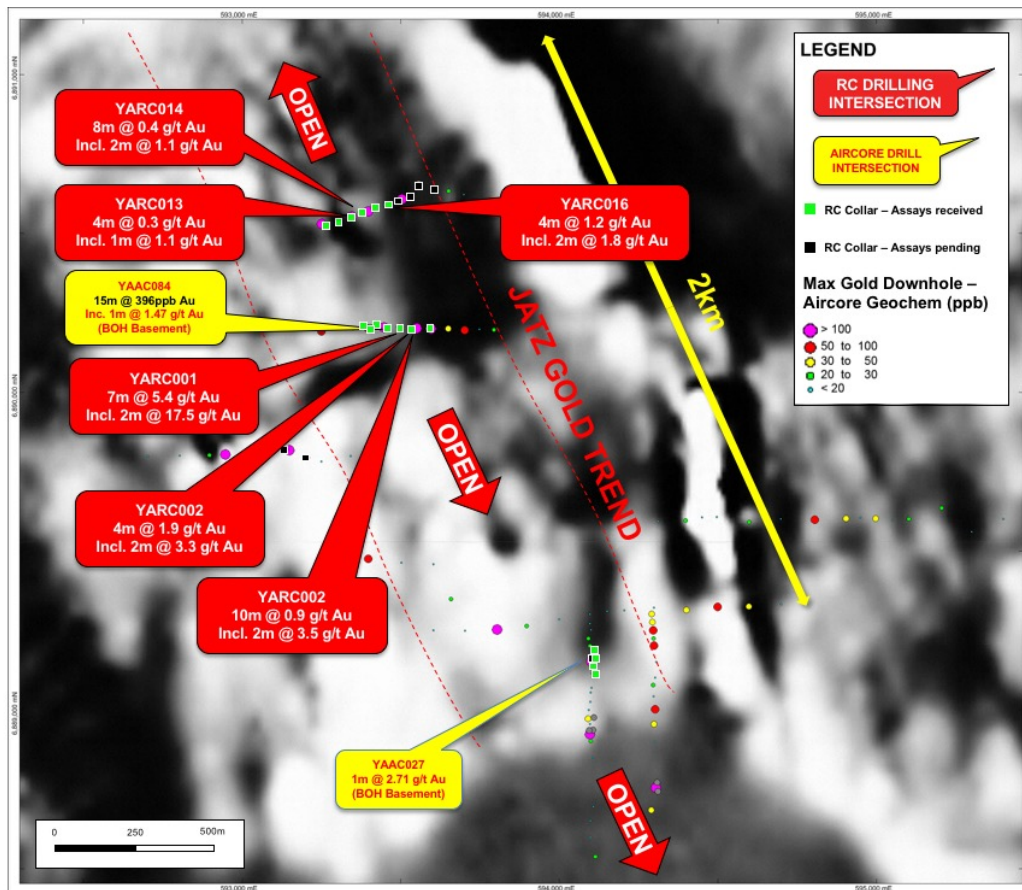

Figure 1: Collar locations over aeromagnetics. Assays from RC drilling are for the first 16 holes of a 37 hole programme.
- Second tranche of assays from maiden RC drilling at Jatz yields basement hosted **ore grade gold 400m north** of discovery hole (Figure 1).